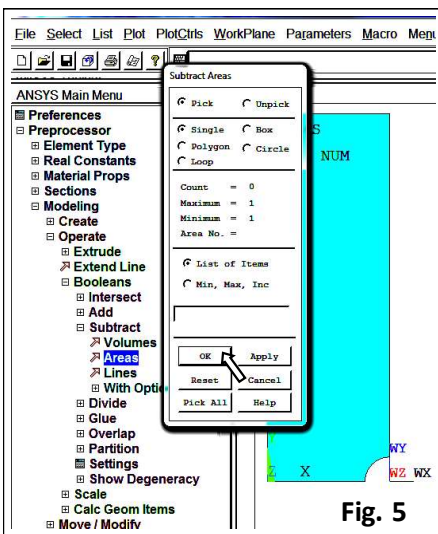

Fig. 5
d) subtract the circle from the rectangle (Fig. 5): (*pick or enter base areas from which to subtract -> select the rectangle (-> ok), pick or enter areas to be subtracted -> select the circle (-> ok)*)